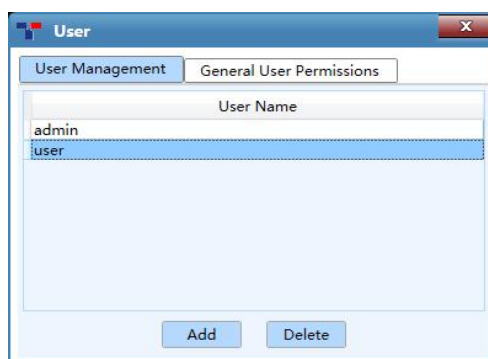

Figure D-3.9a. User Interface - User Management Tab
3. **User**: click **User** option in the **Option** submenu and the application software will automatically pop up the user interface, as shown in figure D-3.9a.